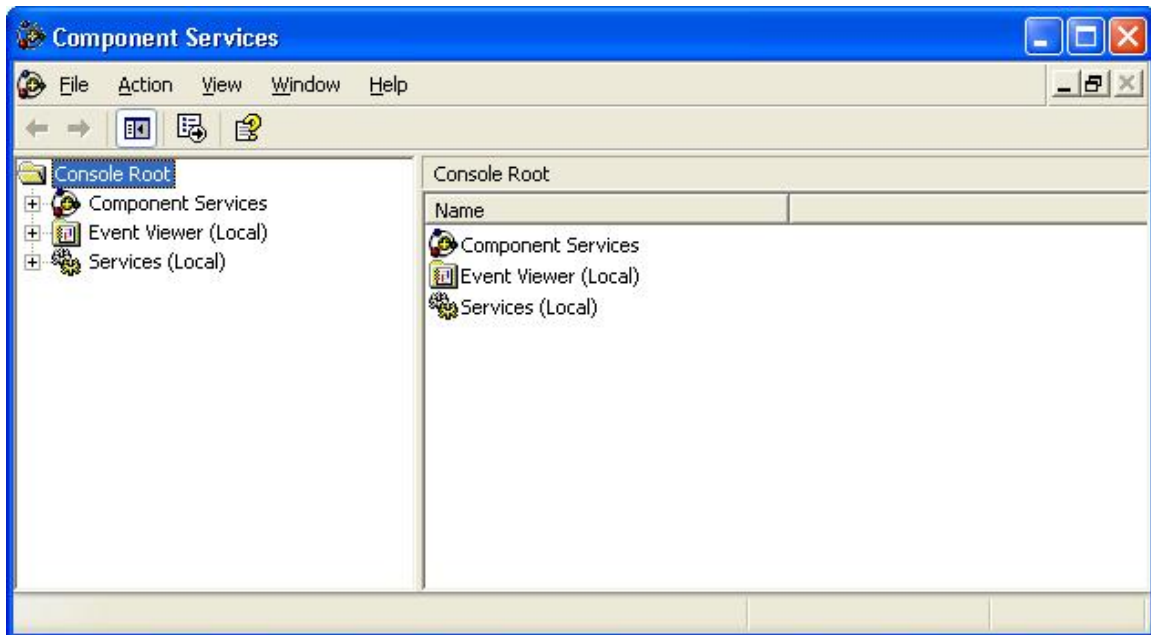

Figure 1.1f
3. The Properties dialog window opens. Click the Security tab. (Figure 1.1f)